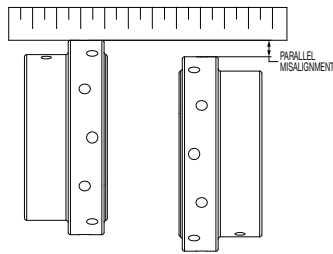

Figure 3 - Parallel Misalignment
- Check parallel misalignment by placing a straight edge across the outside diameter of the hubs and measuring the gap between the straight edge and the hub at four locations 90° apart, as seen in Figure 3. Adjust equipment until the gap does not exceed the value shown in Table 2.